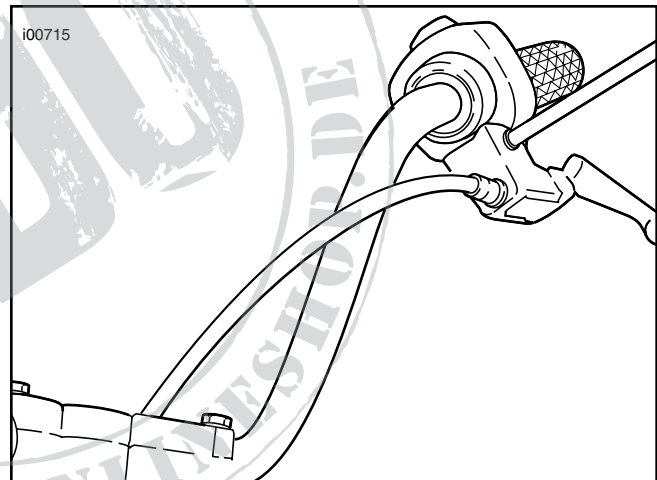

Figure 2. New Clutch Cable Routing
5. See Figure 2. Reroute clutch cable to the inside of the handlebars and reconnect clutch cable to clutch lever.